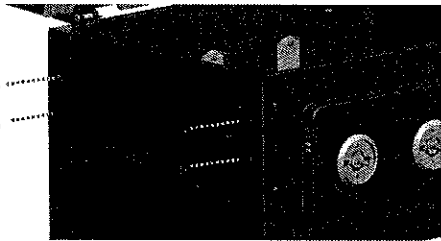

Fig. 15A
Screw (4) M6x15 bolts into the (4) threaded holes in the left side of the grill cabinet as shown in Figure 15A, and leave about 1/4" of each screw sticking out.